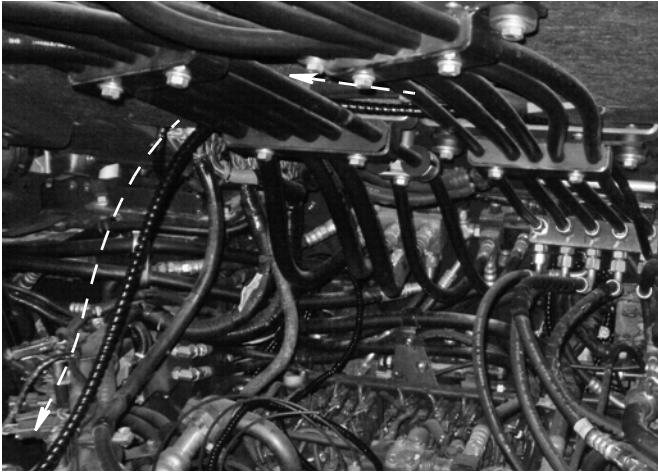

FIG. 55
**NOTE:** The white dotted line in FIG. 55 shows the power cable routing path toward the back of the machine.